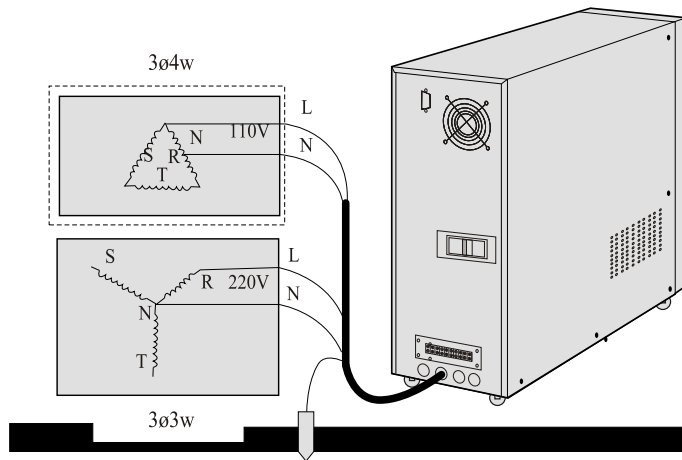

Figure 15
8. Try to make the ground close to connecting point of grounding club or origination point in switch- board. Please refer to figure 15.